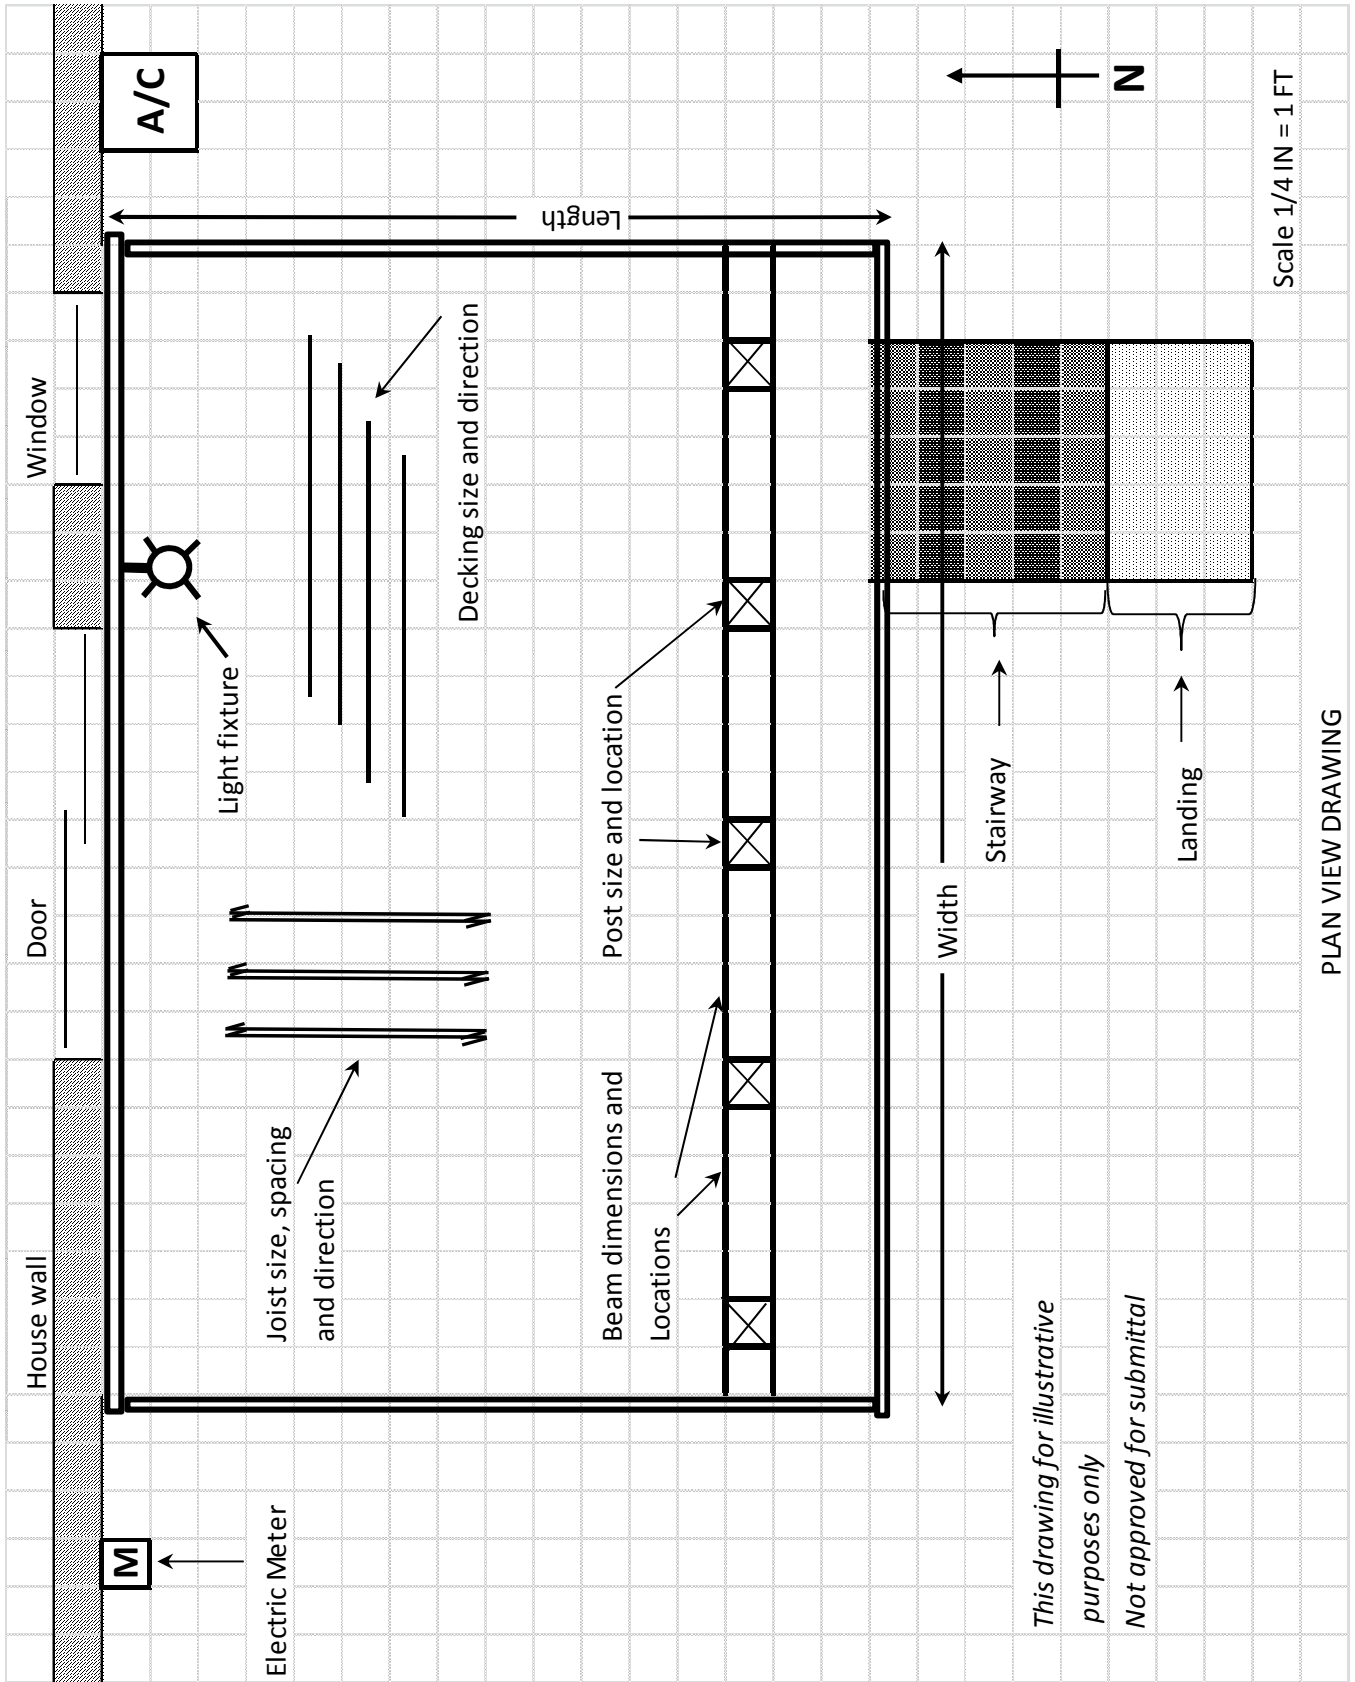

Figure 8
- A Plan view (see figure 8 for example) of the deck showing post, joist and beam placement. The plan view shall indicate all electrical lines, meter locations, pedestals, windows, and window wells, exhaust vents or other items located within the construction area.